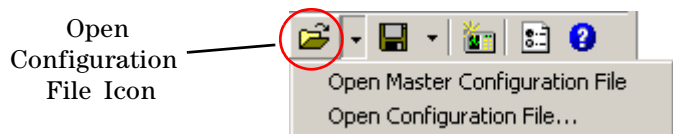

Figure 11 Opening a Different Configuration File
- 3 After saving the configuration with four instruments added, open the Master Configuration file by selecting the open configuration file icon (see Figure 11) and selecting **Open Master Configuration File**. Notice the Master Configuration file only contains the two instruments originally defined. You can now open `AddingFour.xml` to see the configuration with four instruments added.